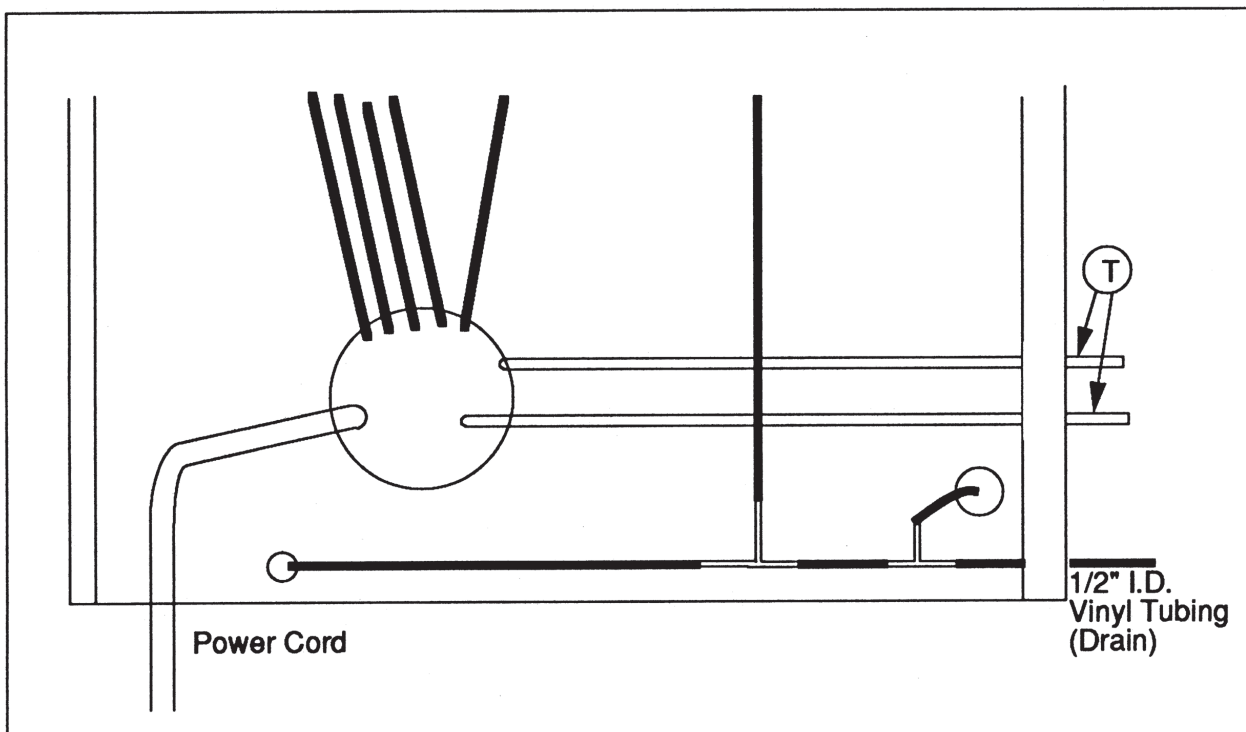

Figure 8
Refer to Figure 8 for the following steps.
13. Remove tape from all hoses on the back of the cabinet and route the two (2) nylon high pressure hoses **T** through the holes in the side of the cabinet as shown in Figure 8.
14. Route the 4' length 1/2" vinyl hose through the lower hole as shown in Figure 8. This tubing will serve as the drain for the system. If longer length is needed, order 1/2" I.D. x 1/16" wall vinyl tubing from your dealer.